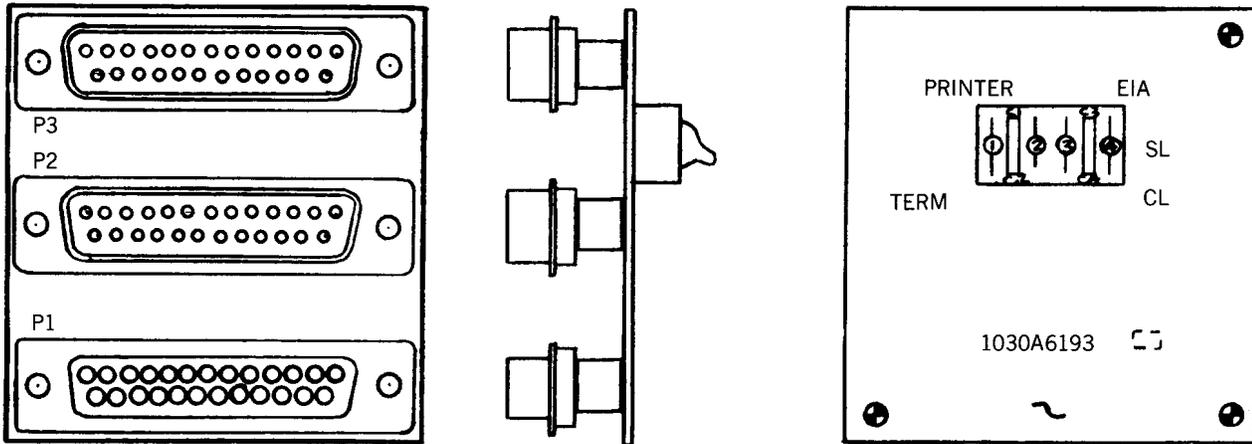

Fig. 1—Diagnostic Test Plug
3.01 The User Diagnostic Kit (SYKES Part #1030A5191) consists of a special Diagnostic diskette and a 3-port EIA connector plug (Fig. 1). The test procedure is automatically loaded off the diskette into Comm-Stor's memory when the test is performed. In the first half of the test interval, tests are performed on Comm-Stor's memory, disk drive, and other internal system devices.
5.03 The diagnostic test plug (Fig. 1) has two switches, numbered "1" and "2", for simulating the peripheral cabling. The plug is placed over *all three* EIA ports.